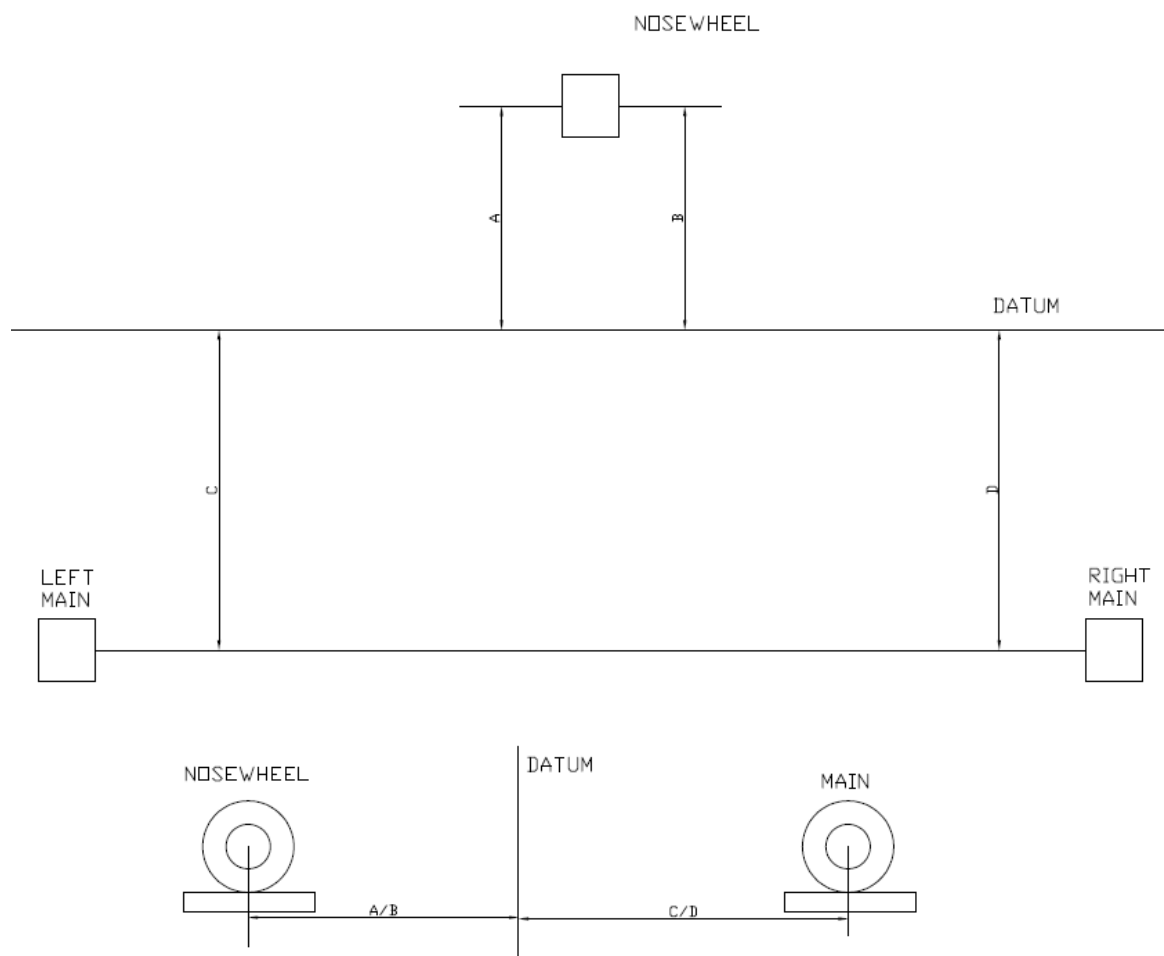

Figure 10 – Weighing Diagram.
- All distances aft of the datum are considered positive and all distances forward of the datum are negative. See Figure 10. Note that while the arrangement shown assumes that the wing leading edge is the aircraft datum, for some Jabiru models the datum is displaced a fixed amount forward of the leading edge. For these models the measurements taken must be adjusted to readings relative to the datum. For example,